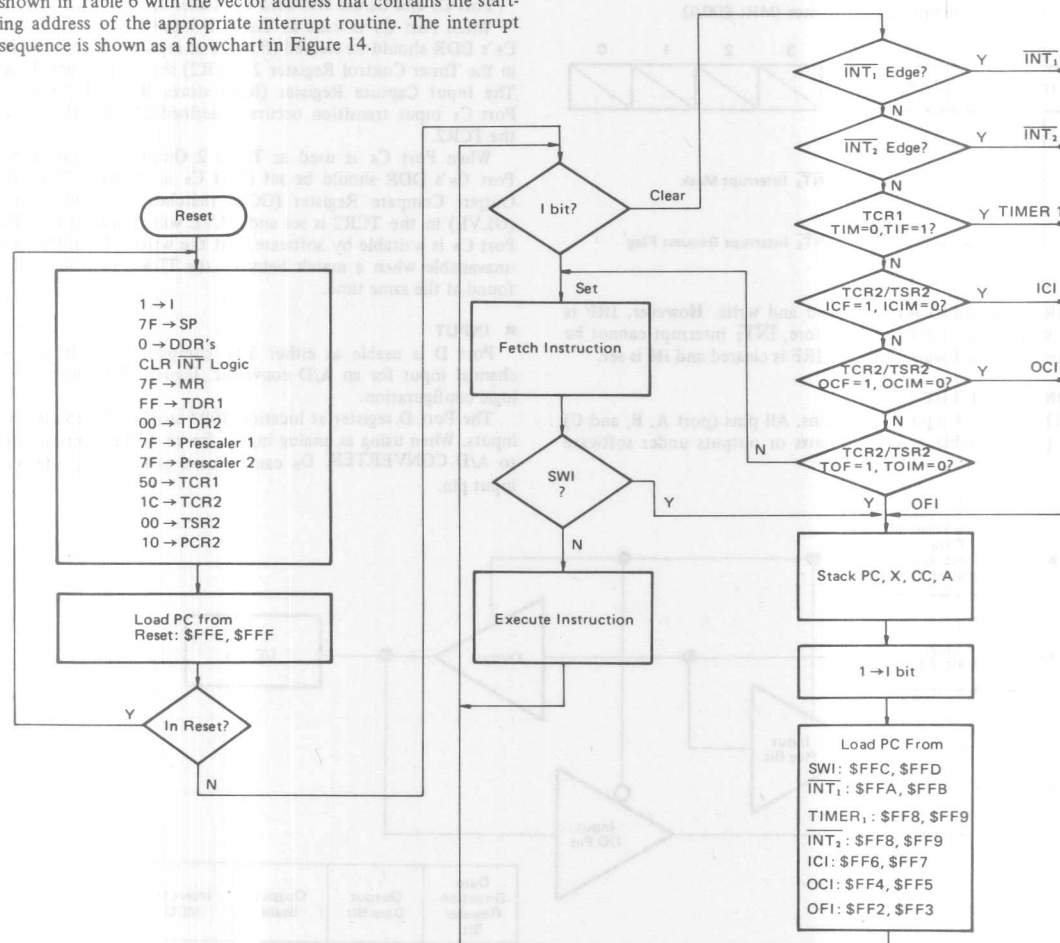

Figure 14 Interrupt Flowchart
The MCU can be interrupted in seven different ways: through external interrupt input pin ($\overline{\text{INT}}_1$ and $\overline{\text{INT}}_2$), internal timer interrupt request (Timer 1, ICI, OCI and OFI) and a software interrupt instruction (SWI). $\overline{\text{INT}}_2$ and Timer 1 are generated by the same vector address. When interrupt occurs, processing of the program is suspended, the present CPU state is pushed onto the stack in the order shown in Figure 4. The interrupt mask bit (I) of the Condition Code Register is set and the external routine priority address is achieved from the special external vector address. After that, the external interrupt routine is executed. Stacking the CPU registers, setting the I bit, and vector fetching requires 11 cycles. The interrupt service routines normally end with a return from interrupt (RTI) instruction which allows the CPU to resume processing of the program prior to the interrupt. The priority interrupts are shown in Table 6 with the vector address that contains the starting address of the appropriate interrupt routine. The interrupt sequence is shown as a flowchart in Figure 14.